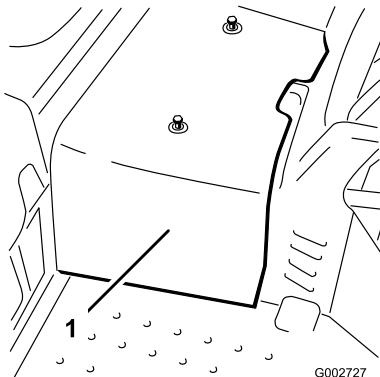

Figure 42
2. Loosen the 2 screws securing the center shroud to the machine and remove the shroud (Figure 42).